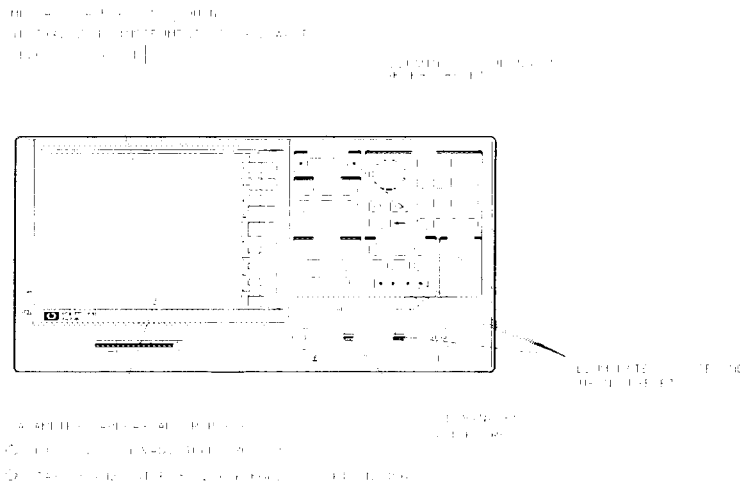

Figure 1-9. Checking the Operation
- 3 Press PRESET, and observe items shown in Figure 1-9.